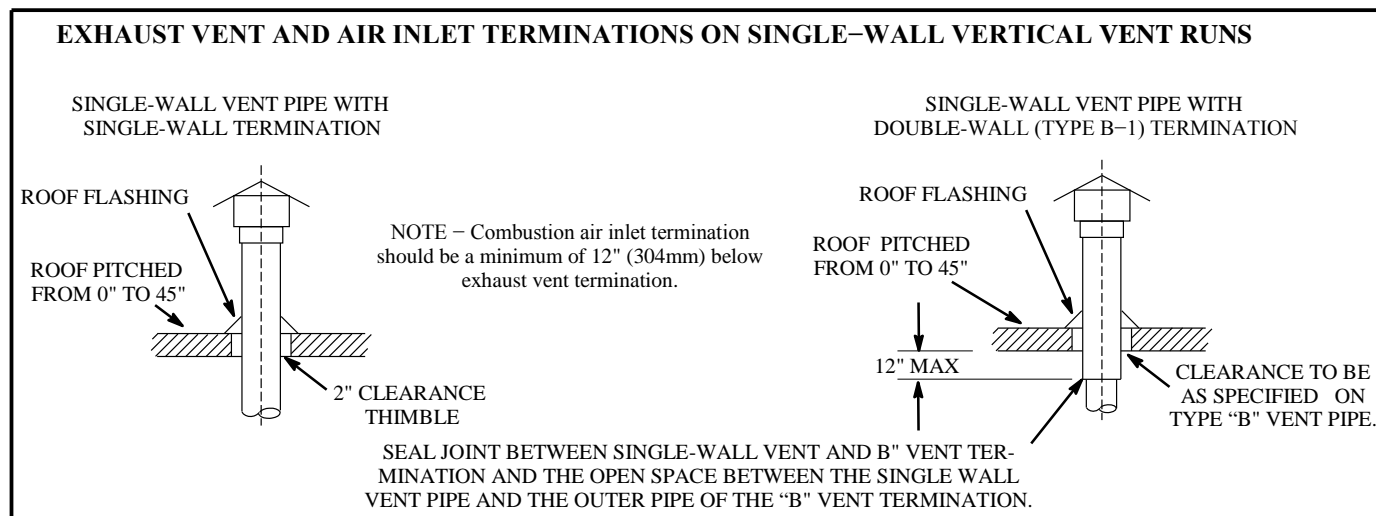

FIGURE 2
- 1 – These unit heaters are to be used with NFPA- or ANSI-approved chimneys or U.L.-listed type B-1 gas vents, or listed chimney lining systems for gas venting where applicable, as well as the modifications and limitations listed in figure 2. Seal single-wall vent material according to **General Recommendations and Requirements** section. Air inlet pipe may be single-wall metal pipe or U.L.-listed single-wall metal flex connector.